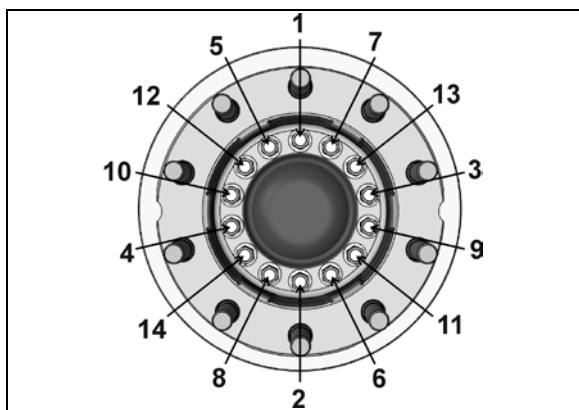

FIGURE 24: HUB FLANGE HEX CAP SCREW TIGHTENING SEQUENCE
12. Secure hub flange and rotor to unitized hub bearing using 14 hub flange cap screws. Refer to FIGURE 24 for tightening sequence.